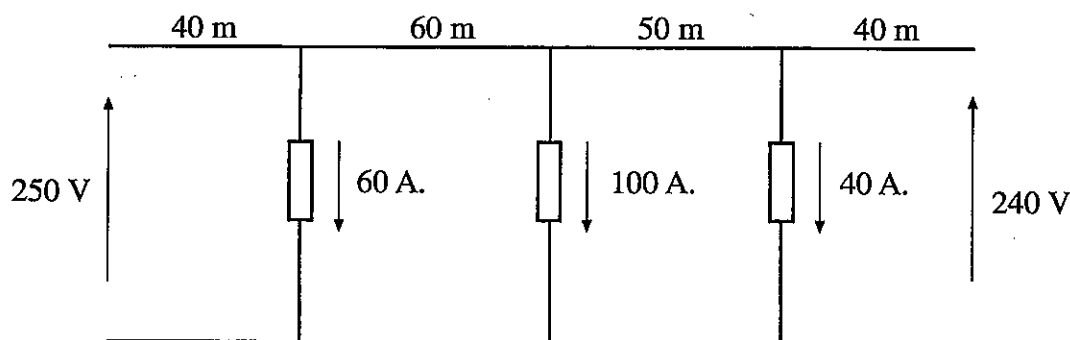

Fig Q. 1
1. Fig. Q.1 shows a d.c. distribution system fed with a different supply voltage at each end. The resistance of the twin supply cables ('go and return') is  $0.001\Omega/\text{m}$ .